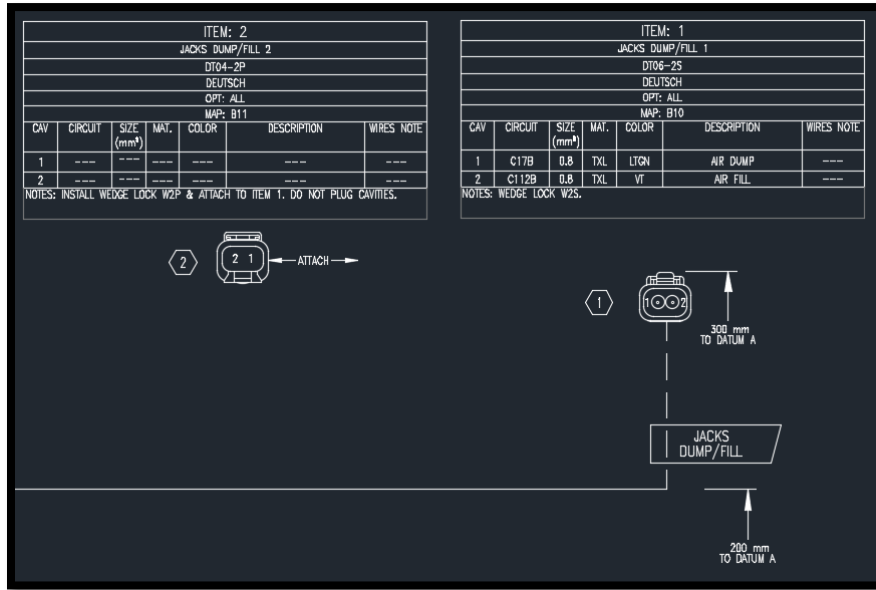

FIG. 8-1
22. Install Hadley ECU 6" Extension harness by connecting Item's 1 & 2. Refer to FIG. 8-1.